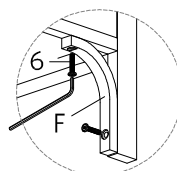

FIGURE 04
8. Attach the deco parts (F) by using Allen bolts (6) provided as illustrated on FIGURE 04.